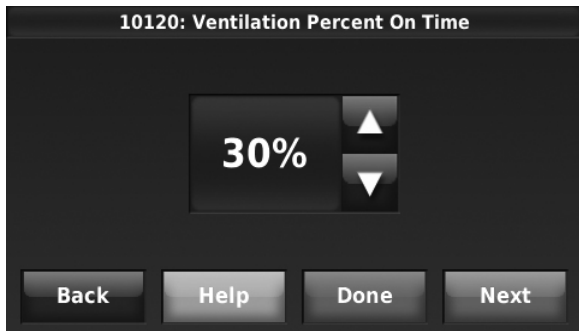

Fig. 255.
8. If Percent On Time was selected for ISU 10050, select the Ventilation Percent on Time. See Fig. 255.